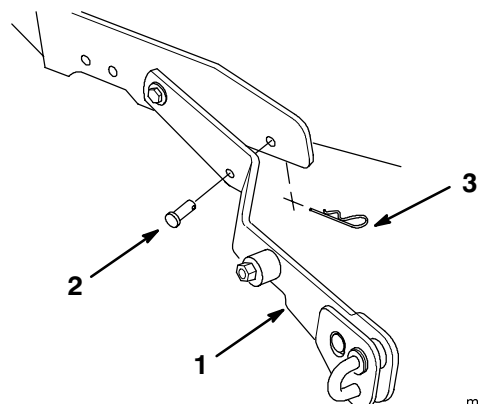

Figure 8
4. The two lift arms are attached to the tractor frame, just ahead of the rear wheels. Secure the lift arms to the tractor frame with 3/8" x 1" (25 mm) clevis pins and small hairpin cotters (Fig. 8).